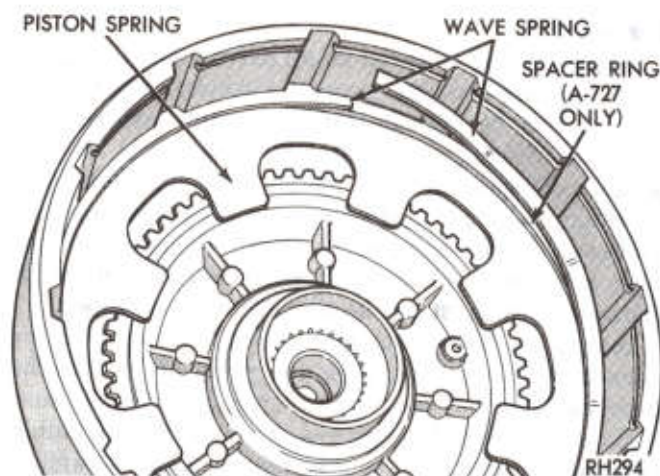
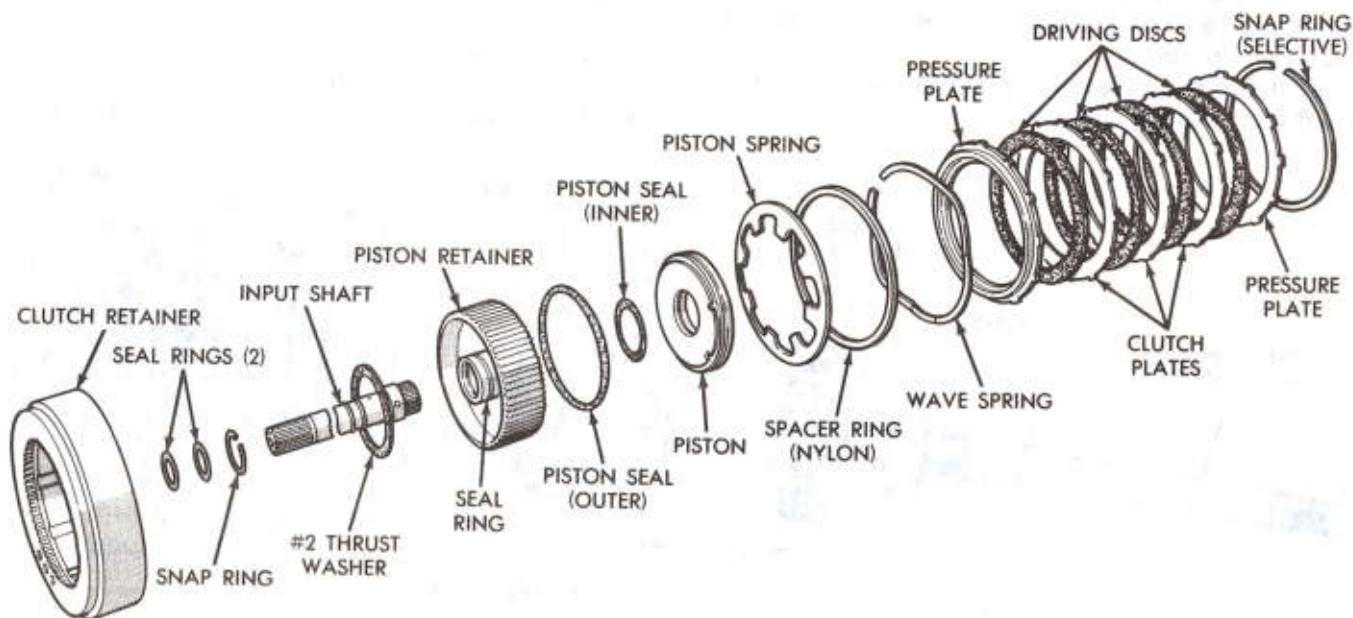

Fig. 28—Install Rear Clutch Spring
Fig. 30—Rear Clutch (A-727)
clutch retainer. Start one end of wave spring in retainer groove (Fig. 28), then progressively push or tap spring into place making sure it is fully seated in the groove.
Figure 30 shows a disassembled view of the rear clutch assembly.
Inspect seal rings (Fig. 30) on input shaft for wear or broken locks, make sure they turn freely in the grooves. Do not remove rings unless conditions warrant. Inspect bushing in input shaft for wear or scores. Inspect rear clutch to front clutch #2 thrust washer for wear. Washer thickness should be .061 to .063 inch, replace if necessary.
(1) If removed, press input shaft into clutch piston retainer and install snap ring.
(2) Lubricate and install inner and outer seals on clutch piston. Make sure seal lips face toward input shaft, and seals are properly seated in piston grooves (Fig. 30).
(3) Place piston assembly in retainer and, with a twisting motion, seat piston in bottom of the retainer.
(4) Position clutch retainer over piston retainer splines and support the assembly so clutch retainer remains in place.
(5) Place clutch piston spring and spacer ring on top of piston in clutch retainer, make sure spring and spacer ring are positioned in the retainer recess. Start one end of wave spring in retainer groove (Fig. 28), then progressively push or tap spring into place making sure it is fully seated in the groove.
(6) Install inner pressure plate in clutch retainer with raised portion of plate resting on the spring.
(7) Lubricate all clutch plates, install one lined disc